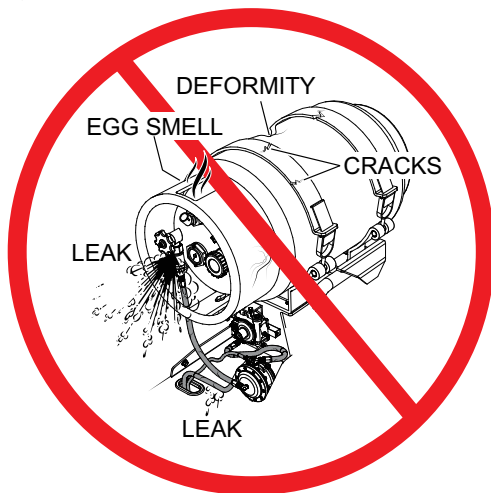

Figure 37. Propane Tank Inspection
1. Visually inspect the propane tank (Figure 37), hose and fitting and be alert to any foul odors.